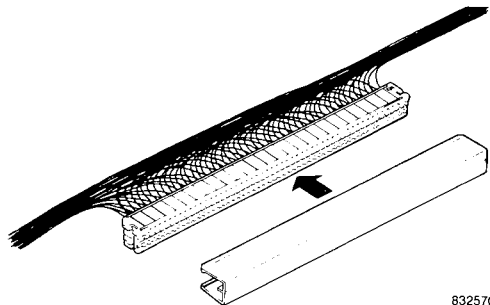

Fig. 120—4078-C Half Tap Cover.
- b. Insulate **pulp** cable cut ends with the 4078C Half Tap Cover. See Figure 120.